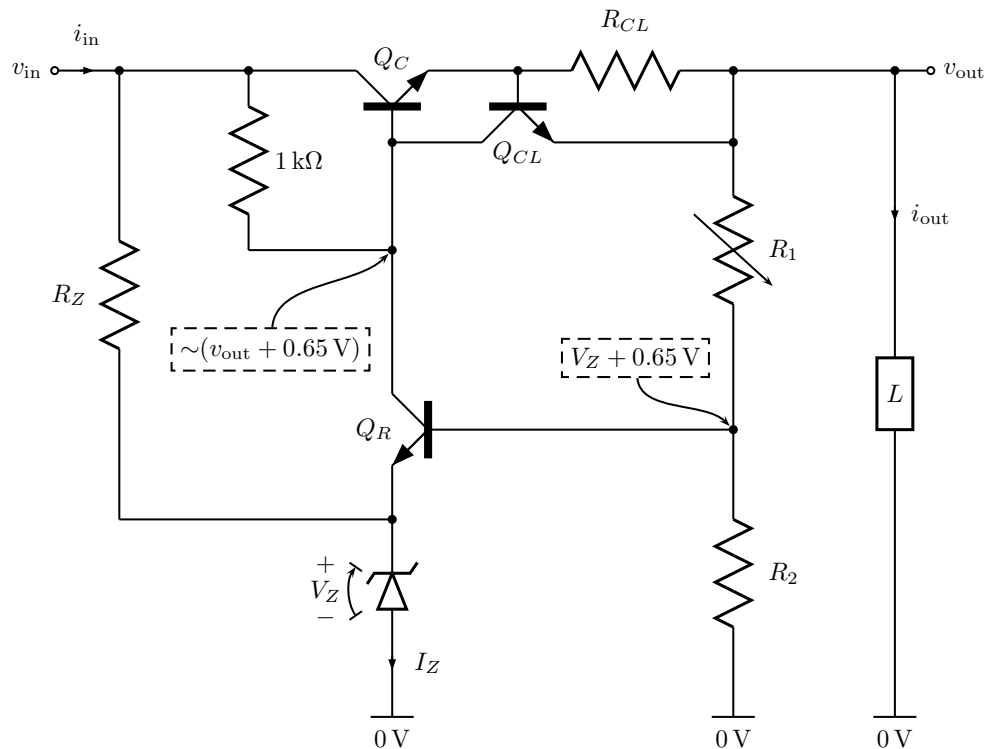

Figure 4.1: Discrete transistor current-limited adjustable series voltage regulator with load L .
The circuit in Figure 4.1 maintains a constant v_{out} over a range of loads that require sufficiently small current. Outside of that range, v_{out} is throttled to limit current.
1. Design (i.e., choose components for desired output) and build the regulator in Figure 4.1 from page 7.
- Start with the circuit in Figure 4.1 from Section 4.